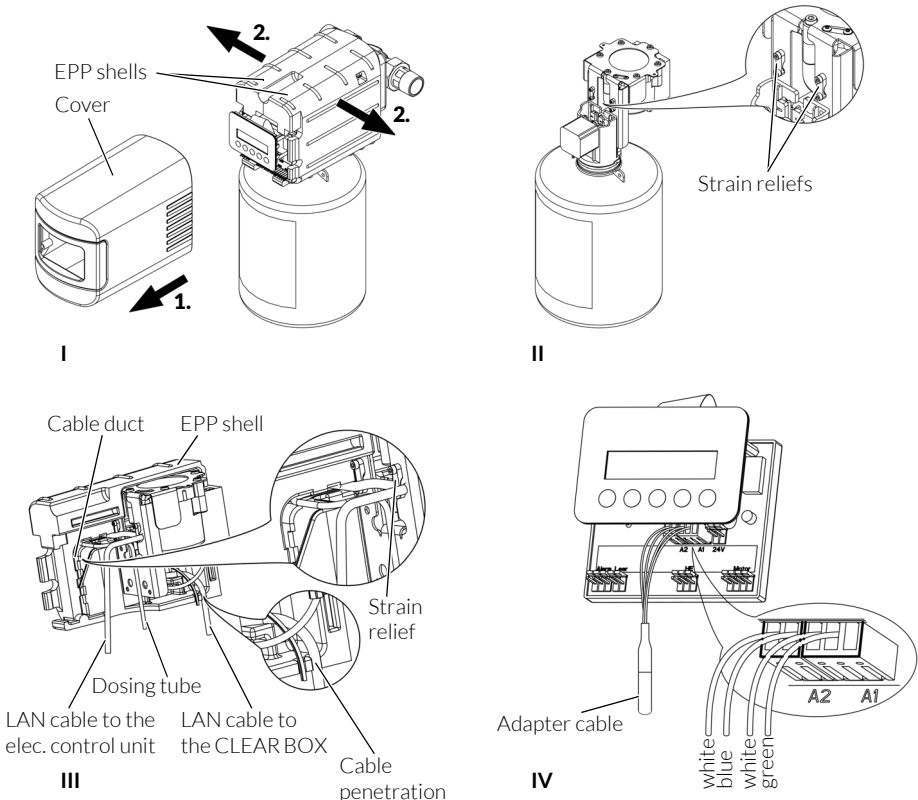

Fig. 5: Connecting the adapter cable to the CLEAR DOS device
- / Pull the cover forwards (see fig. 5 I).
- / Pull both EPP shells off in a sideways direction (see fig. 5 I).
- / Screw off the right strain-relief device (see fig. 5 II).
- / Press the mains cable, external LAN cable and dosing tube into the cable duct of the left EPP shell (see fig. 5 III).
- / Plug both plugs of the adapter cable on to plug-in positions A1 and A2 of the electronic control unit (see fig. 5 IV). Plug an external LAN cable into the RJ-45 socket of the adapter cable.
- / Refit the EPP shells. The LAN cable must pass through the cable penetration (see fig. 5 III).